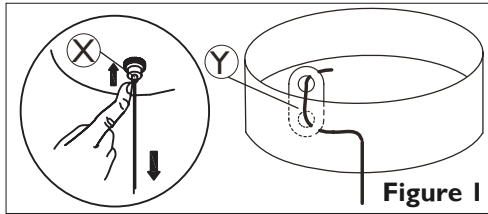

Figure 1
See Figure 1. The drop of this product can be reduced and secured by pushing button (X) and pulling the cable through the cord grip (Y). This will be easier to complete before attaching the product to the ceiling.